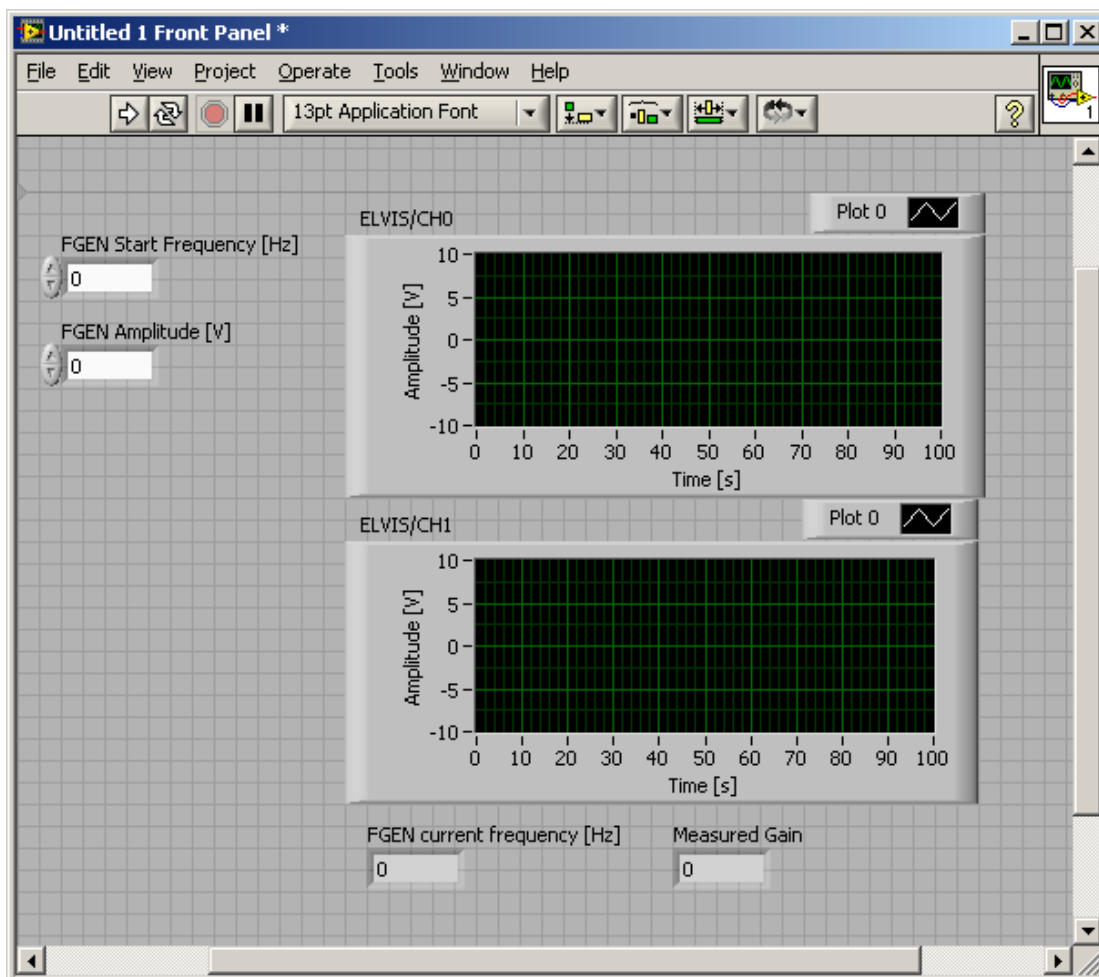

Figure 5-3
- Resize and reposition the various controls and indicators on the Front Panel so that you'll end up with the Front Panel looking like Figure 5-3.